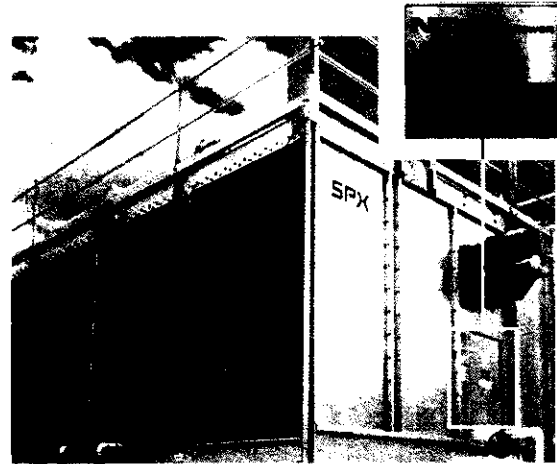

Figure 1
1. Locate the unique **serial number** inscribed on the metal plate on the outside of the access door. See Figure 1.